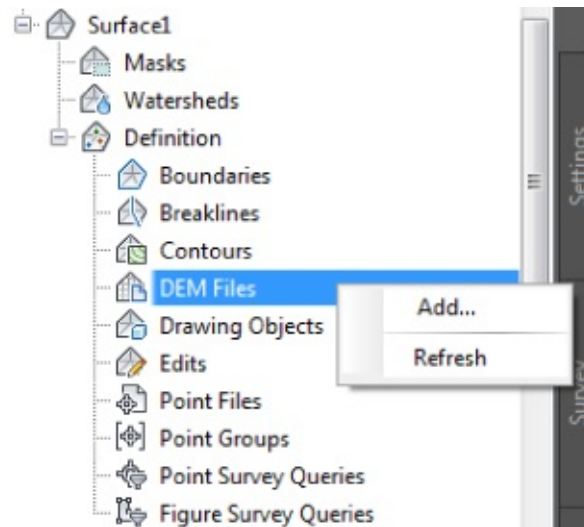

Figure 4.14 Adding DEM data to a surface
8. Right-click DEM Files and select the Add option (see Figure 4.14).